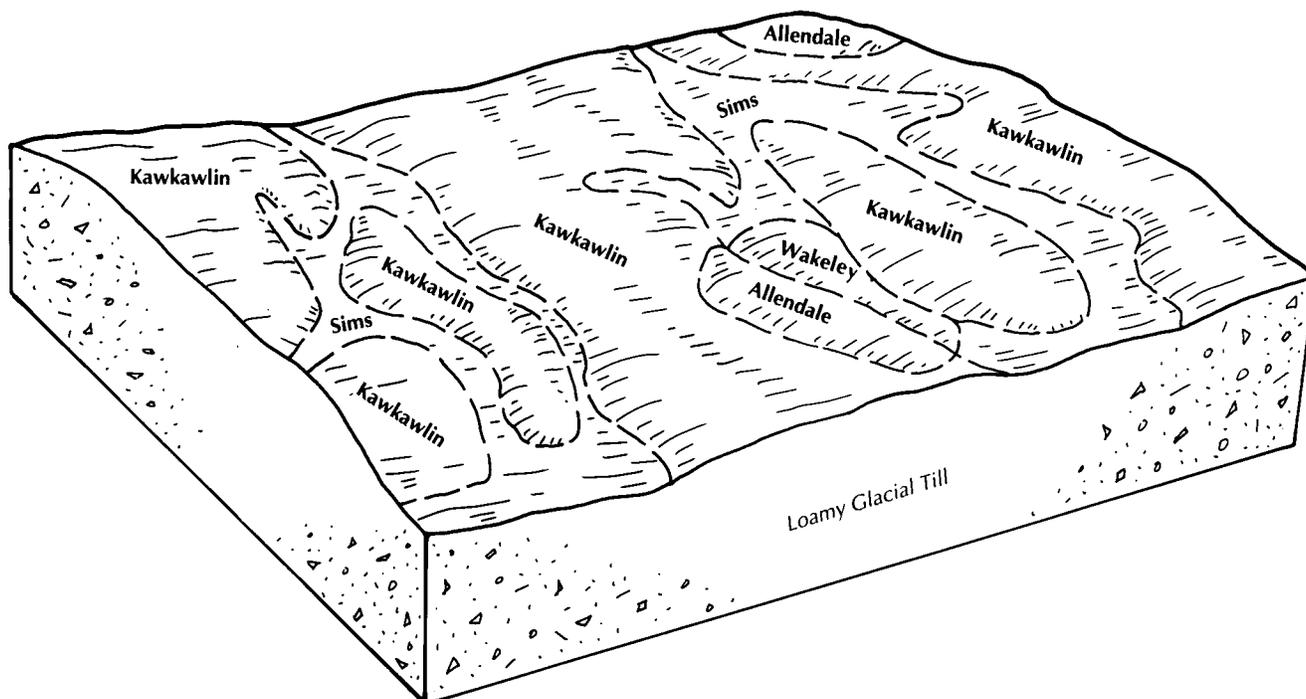

Figure 12.—Typical pattern of soils on the landscape in an area of Kawkawlin-Sims complex, 0 to 4 percent slopes.
*Landform:* Till plains and moraines (fig. 12)